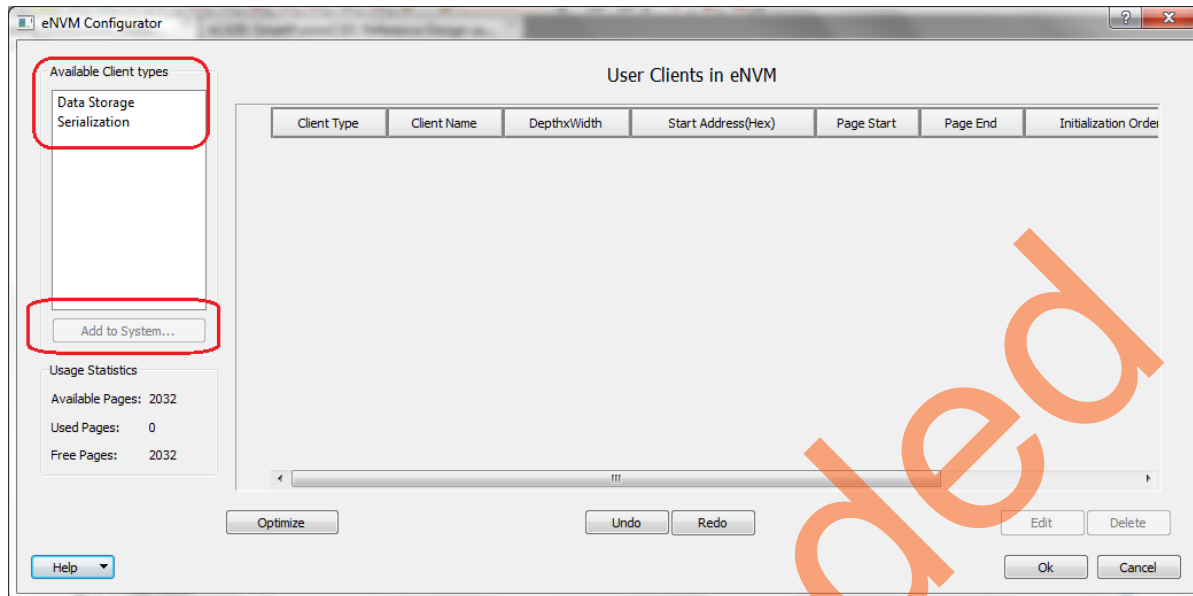
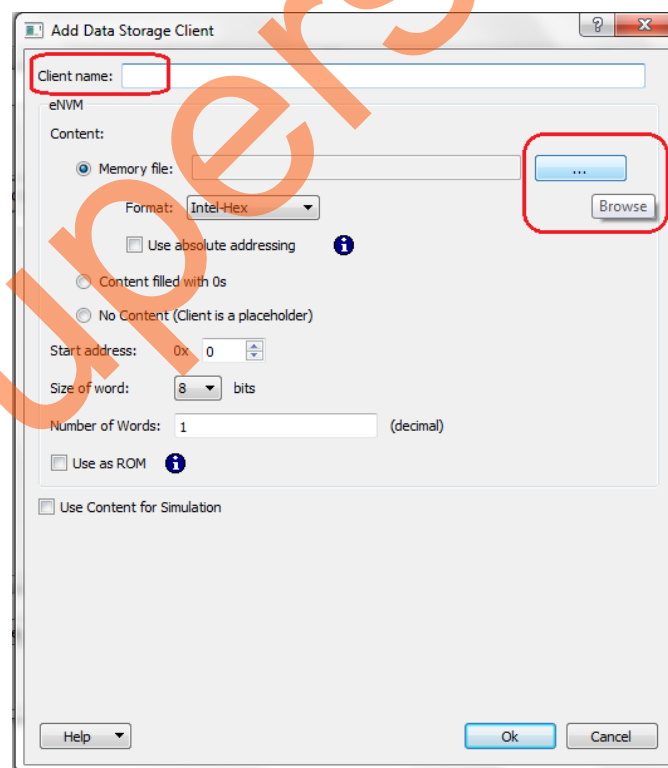

Figure 28 • eNVM Configurator
Figure 29 • Add Data Storage Client Window
- Double-click **eNVM**. The **eNVM Configurator** window is opened as shown in Figure 28.
- Select **Data Storage** under **Available Client Types** tab (refer to Figure 28) and click **Add to System**. This opens **Add Data Storage Client** window as shown in Figure 29.